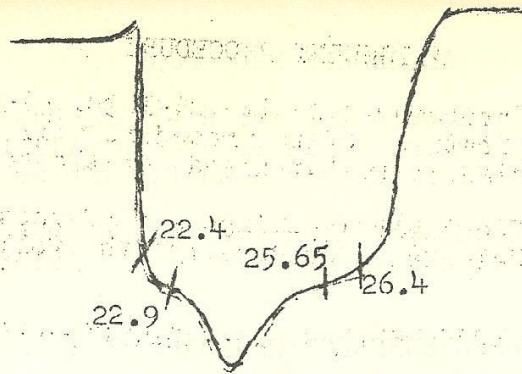

Fig. 2
4. Feed wobbled signal into grid of second video IF (V202). Turn contrast control full on. Use no more signal than the amount required to obtain a clear picture on the scope. Adjust L208, L207 and L209 to obtain the curve shown in Fig. 2. L208 will position center peak. L207 will move shoulders up or down. L209 will position carrier on right shoulder.